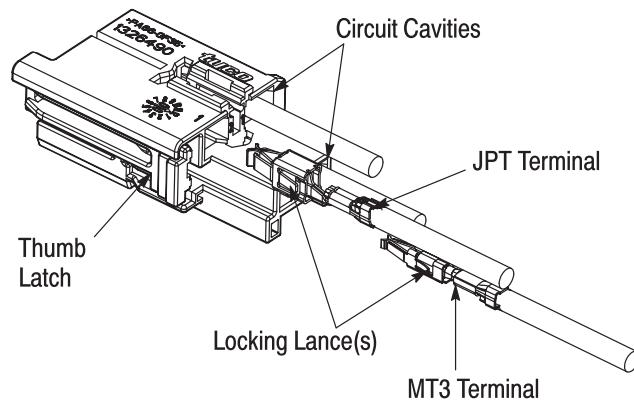

Figure 2
2.1. Contact Insertion (Figure 2)